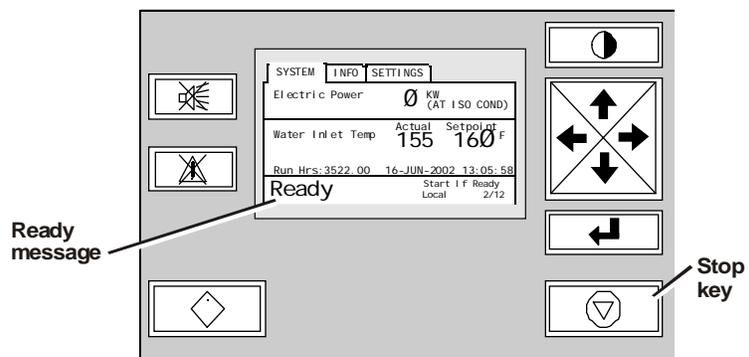

Figure 43. Stop key on control panel
- 1 Shut down the PowerWorks unit by pressing the Stop key (Figure 43).